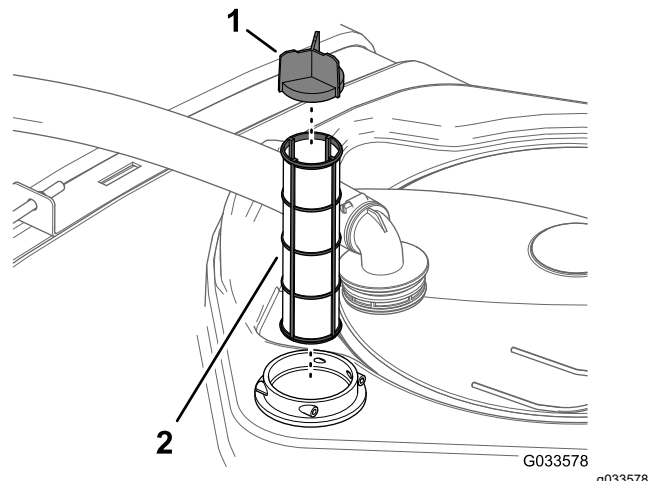

Figure 55
4. Pull the suction strainer out of the filter housing in the tank (Figure 55).